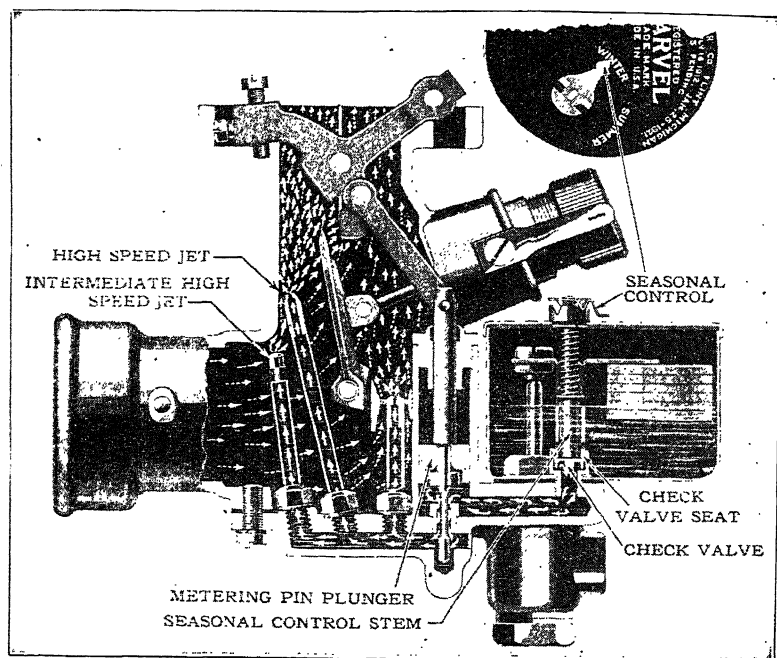

Fig. 73. Winter Setting for Accelerating Device
*Adjusting the Carburetor.* First make certain that the heat control valve on the exhaust manifold is set in a proper position for the season of the year or the climate in which the car is being operated. The next point to inspect is the top of the carburetor fuel bowl where a little lever will be found. See Figs. 73 and 74. This should be set for summer or winter markings, depending upon the season.
additional flow of gasoline is permitted. This is illustrated in Figs. 73 and 74.
high speeds or up hills or hard going. On the accelerating device there are two settings, for winter and summer. The action of the carburetor when accelerating rapidly with the winter setting is illustrated in Fig. 73. The arrows going into and through the gasoline and air passages indicate the action of the mixture. It will be noted that the air valve is open wide. It will also be noted that the